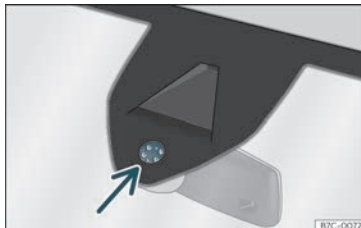

Fig. 93 Rain sensor sensitive surface
Possible causes of faults and mistaken readings on the sensitive surface »» » Fig. 93 of the rain sensor include:
- Clean the sensitive surface of the rain sensor regularly and check the blades for damage »» Fig. 93 (arrow).